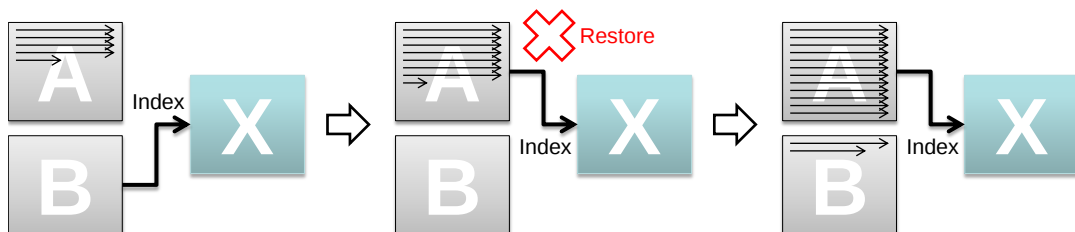

Figure 13 Example of Restore State Transition
- Index masking is effective in link control (Group) when accessing different portions of data. Figure 13 shows an example where Logical Channels B, C, and D, while applying overtake control with the same transfer size, partially drive the Pipeline. Note that the PSS continues to update the Index even in the masked regions.